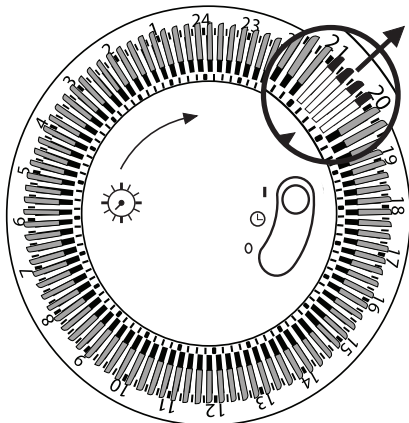

Fig 1
1. Turn the radiator upside-down on a scratch-free and stable surface to prevent damage to the paint finish or your floor surfacing (see Fig 1).
outwards (Fig 1).